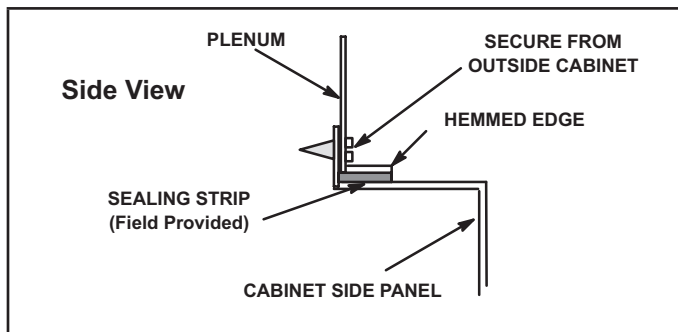

FIGURE 9
- 1 - Bottom edge of plenum should be flanged with a hemmed edge (See FIGURE 9)